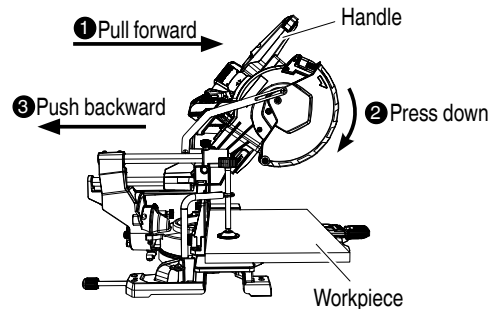

Fig. 32
Then press down on the handle and slide the saw blade backward to cut the workpiece as indicated in Fig. 32. This facilitates cutting of workpieces of up to 3-1/2" (89 mm) in height and 11-1/2" (292 mm) in width.
- For slide cutting, follow the procedures indicated above in Fig. 32. Forward slide cutting (toward the operator) is very dangerous because the saw blade could kick upward from the workpiece. Therefore, always slide the handle away from the operator.